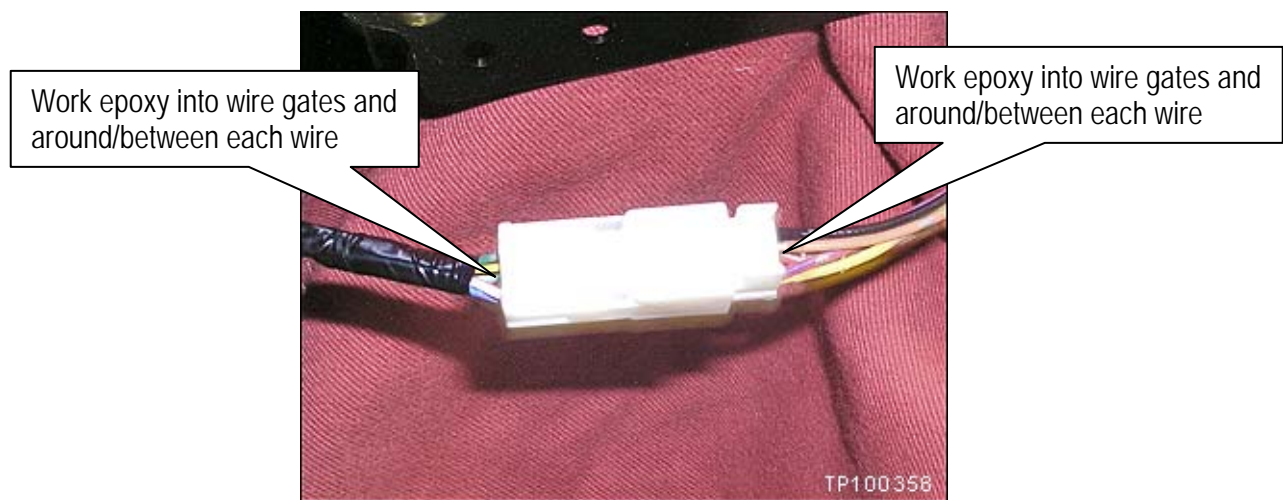

Figure 4d
- Apply the epoxy to the back side (wire gates) of the BTS connector (see Figure 4d).